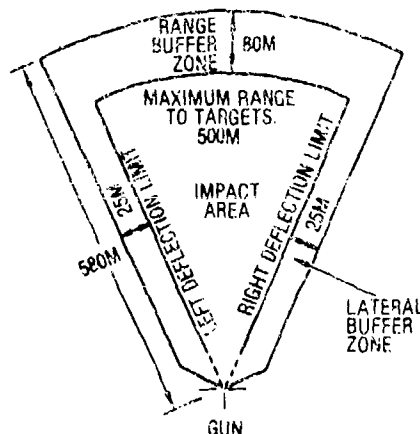

Figure 9-2. Surface danger zone.
a. When selecting an area for the M31 trainer range, consideration must be given to the safety requirements for indirect fire with the weapon. Dimensions of the surface danger zone are dependent on the nature of the firing and type of surface conditions present within the surface danger zone. Figure 9-2 shows a sample surface danger zone. TM 9-6920-361-13 and P and AR 385-63/MCO P3570.1 explain the procedures for constructing surface danger zones.